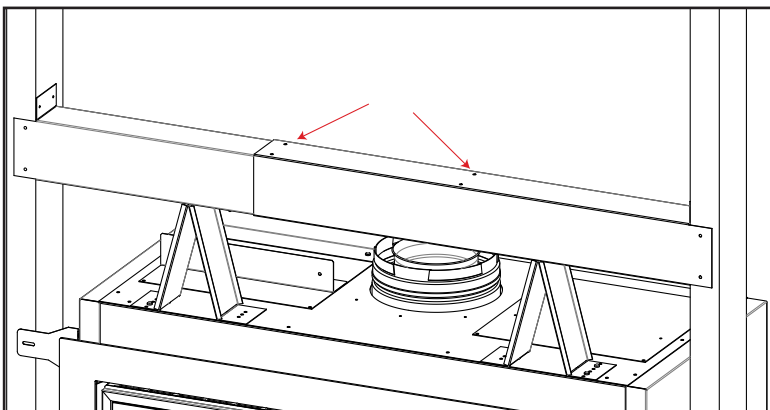

**Figure 14: Steel Stud Assembly**
1. Take the two steel stud pieces and slid them into each other. The flanges of each piece should be at the end of the assembly, as well as facing upwards as shown in Figure 14.